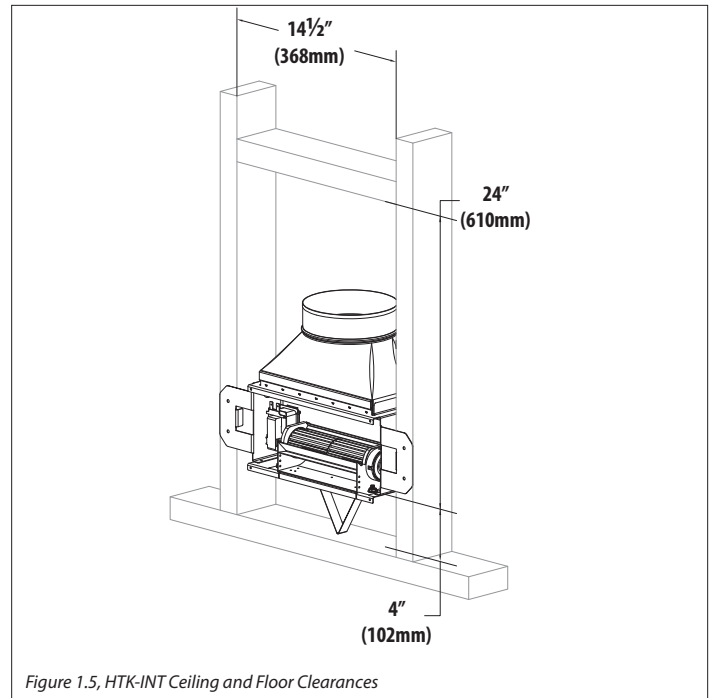

Figure 1.5, HTK-INT Ceiling and Floor Clearances
- Figure 1.5 shows the 4" (102mm) clearance between the air discharge box and the framing of the floor or the ceiling.